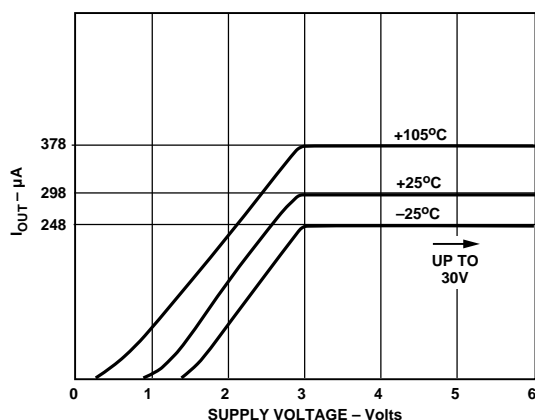

Figure 1. V-I Characteristics
The AD592 uses a fundamental property of silicon transistors to realize its temperature proportional output. If two identical transistors are operated at a constant ratio of collector current densities, r , then the difference in base-emitter voltages will be $(kT/q)(\ln r)$. Since both k , Boltzman's constant and q , the charge of an electron are constant, the resulting voltage is directly Proportional To Absolute Temperature (PTAT). In the AD592 this difference voltage is converted to a PTAT current by low temperature coefficient thin film resistors. This PTAT current is then used to force the total output current to be proportional to degrees Kelvin. **The result is a current source with an output equal to a scale factor times the temperature (K) of the sensor.** A typical V-I plot of the circuit at +25°C and the temperature extremes is shown in Figure 1.